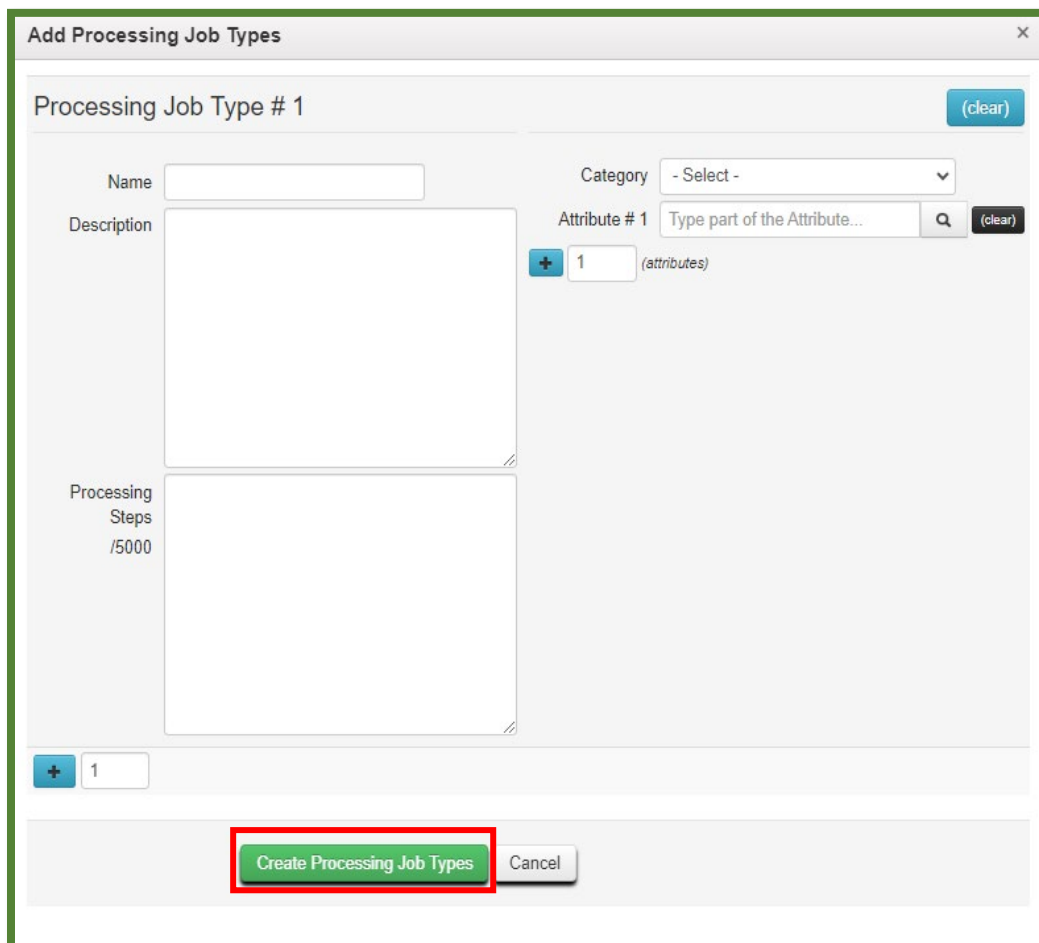

Figure 3: Add Processing Job Types action window
- Attribute #1 is used to add one or more Attributes that pertain to the Processing Job Type from the state-created options. Attributes can be added by typing in the attributes needed into the attribute field or by selecting the magnifying glass icon and choosing the appropriate option from the group of attributes. To add additional attributes, select the blue plus icon button – **see Figure 3**.